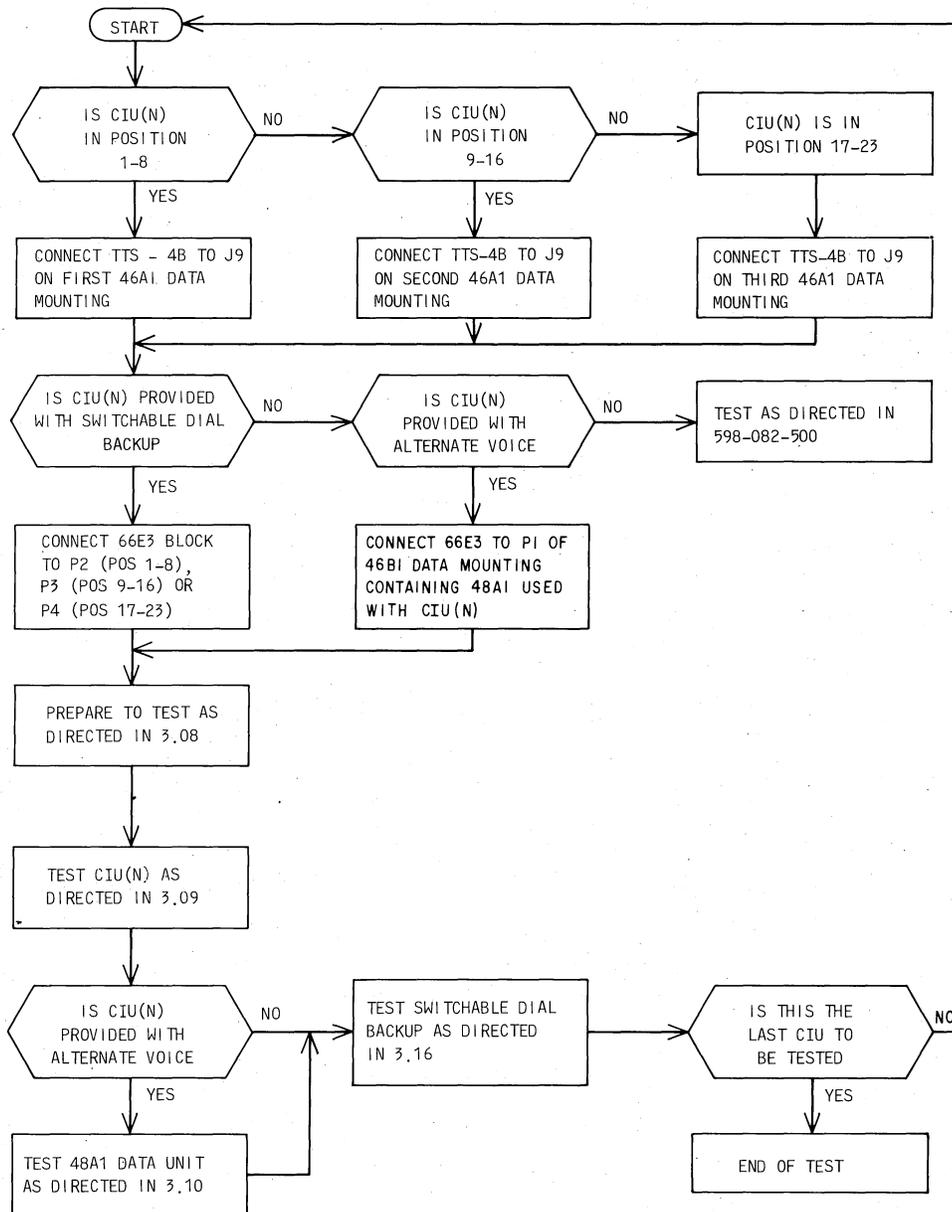

Fig. 1—Installation Test Procedure
3.02 Refer to Fig. 1 to determine the overall sequence in which the tests are to be performed. All positions equipped with a DAS 829-type must be tested at time of installation as directed in Fig. 1. These tests may also be used during a maintenance visit subject only to the following: If only one DAS 829-type is to be tested while the rest of the DAS 829-types (in the same 46A1 data mounting) remain operational, then the CIU (N) referred to in Fig. 1 applies only to the DAS 829-type to be tested. The access points to J9 of the 46A1, J10 of the 46B1, or P2, P3, P4